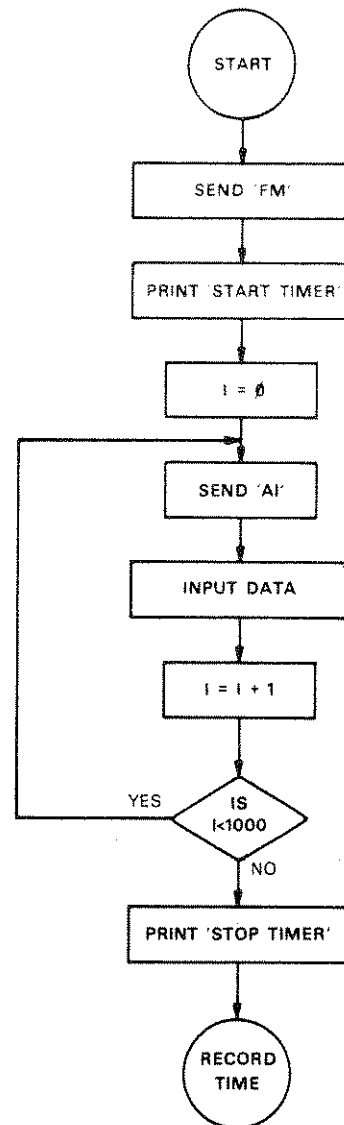

Figure 4-7. Flowchart for Programming 560A to Return 1000 Readings of Channel A Data
1. Referring to flowchart in Figure 4-7 or program in Figure 4-8, program the controller to (1) send a fast mode (FM) command and (2) take 1000 read-
2. Program controller to (1) send hold
mode (HM) command, (2) send smoothing off (SØ) command, and (3) take 1000 readings of Channel A data. (In flowchart of Figure 4-7, change "FM" to "HMSØ" and rerun program.) Use a stopwatch to measure the time between "START TIMER" and "STOP TIMER" in controller program. Subtract the time measured in step 1 from the time measured in this step. The difference between these two times should be 12 ± 2 seconds. If the time is not 12 ± 2 seconds, the A6 PCB is faulty; there is no adjustment for this time delay.